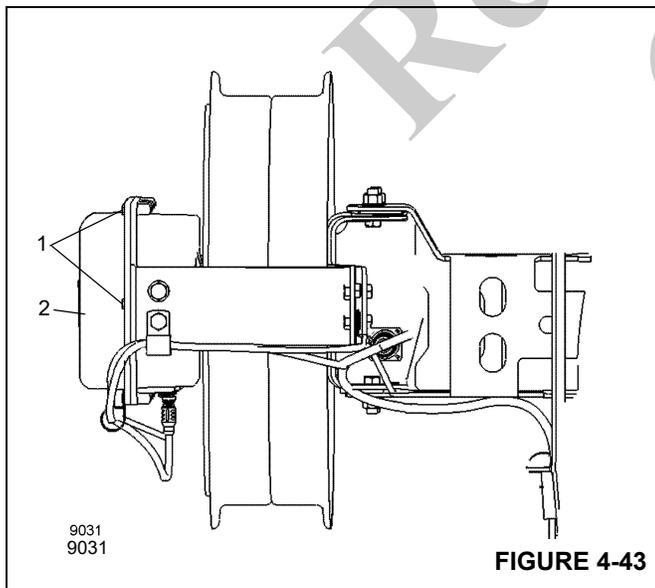

FIGURE 4-43
- Check to make sure all screws (1), (Figure 4-43) are tight.
- Put the casing (2), (Figure 4-43) back in place. Make sure that the seal is in the right place.
- Fasten the casing with all the screws (1), (Figure 4-43).